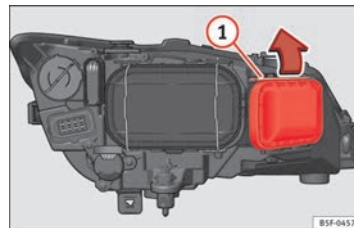

Fig. 189 Main beam headlight bulb.
- Move the loop ⇒ Fig. 189 ① in the direction of the arrow and remove the cover.